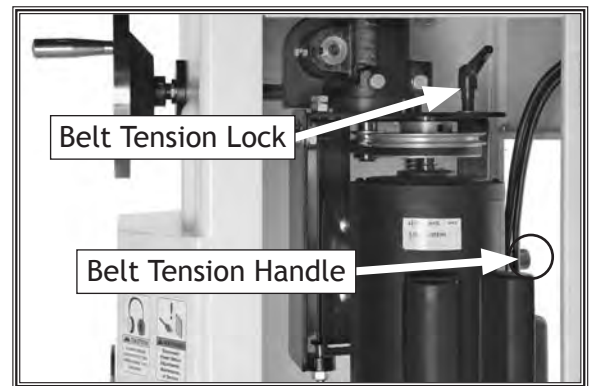

Figure 17. Belt speed and tension controls.
2. Loosen the belt tension lock (**Figure 17**).